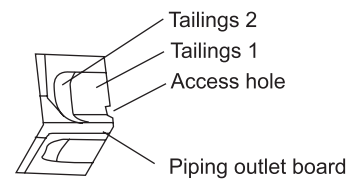

Figure 5
1. When routing the piping or wiring from the left or right side of the indoor unit, cut off the tailings from the chassis in necessary (Shown in figure 5)